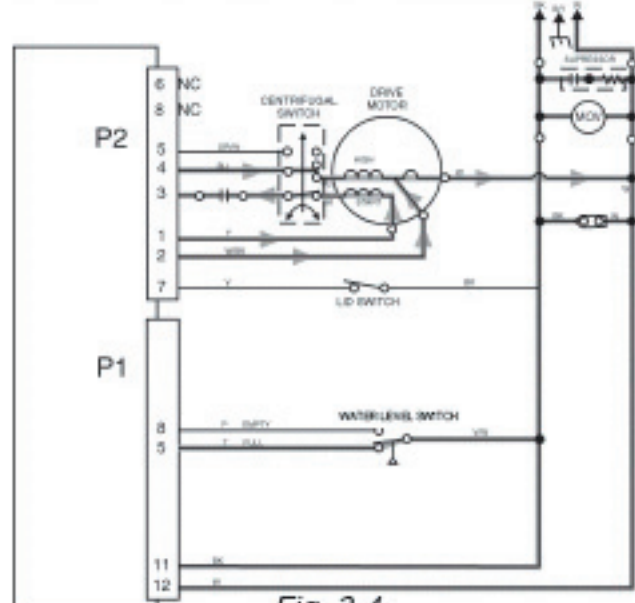

Fig. 3-4
3. The drive motor is energized through pin 4 of P2 and begins agitation. The current flow through the start winding is opposite the current flow of the run winding in the agitation mode. Because the drive motor is not up to full run speed, the centrifugal switch contact in series with the motor reversing relay is closed which allows 120 VAC to energize the start winding. (Fig. 3-4)